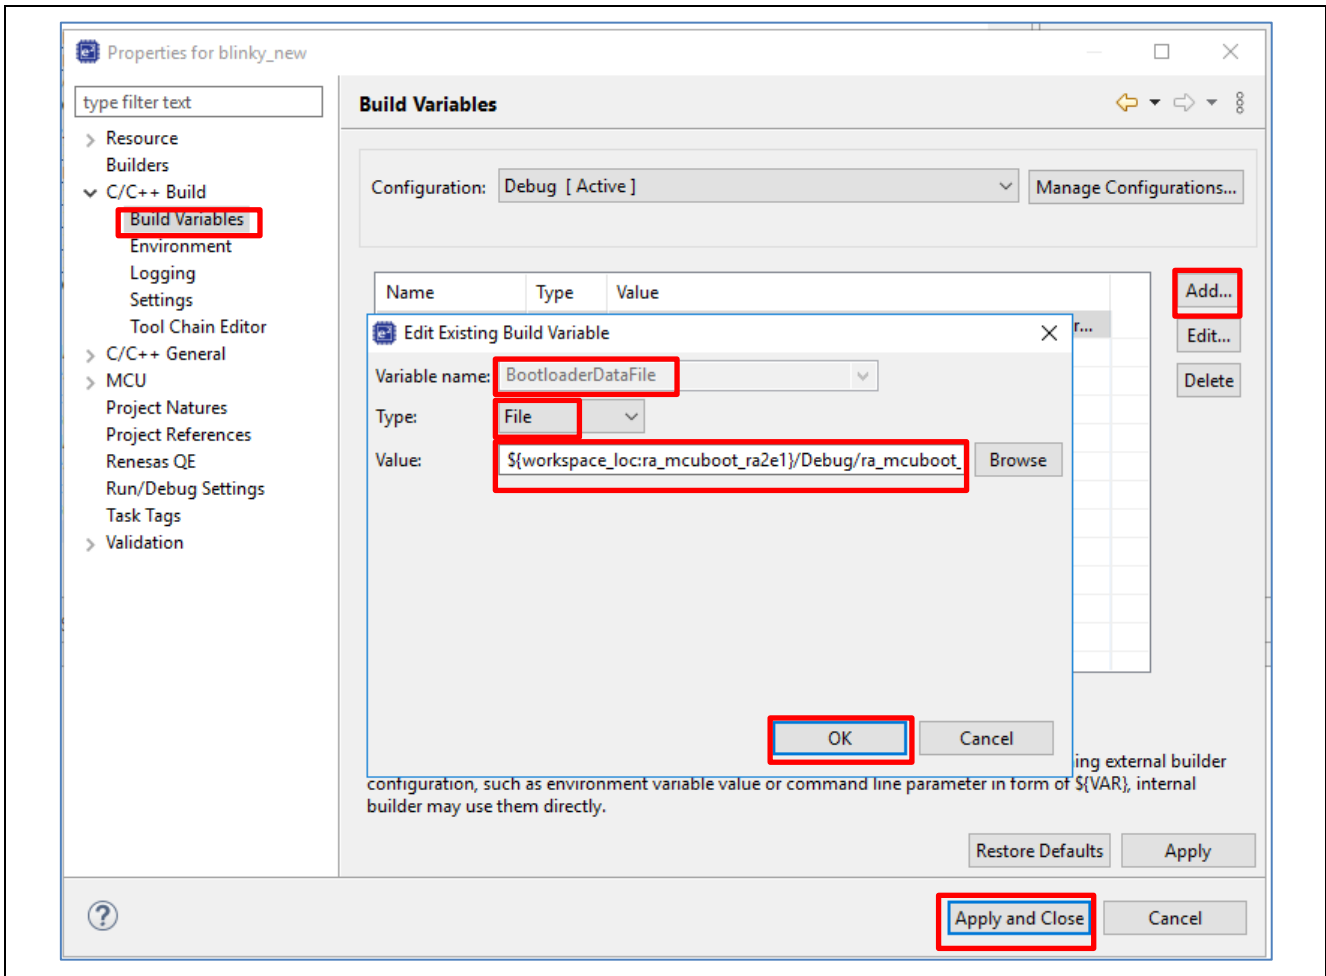

Figure 51. Configure the Build Variable to Use the Bootloader
- For example, for bootloader project ra_mcuboot_ra2e1 (see Figure 51), **Value** will be: